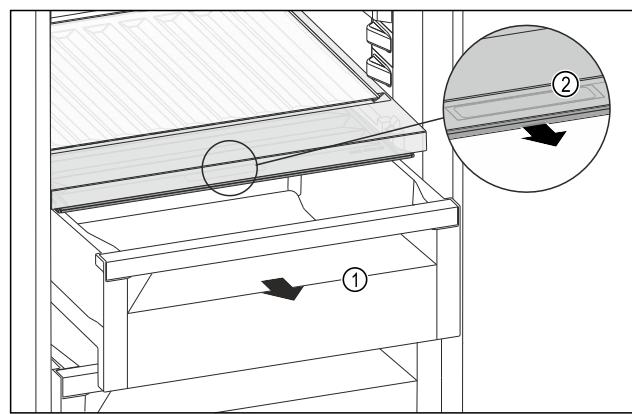

Fig. 95
- Pull out the drawer Fig. 95 (1).
- Grasp the recessed grip Fig. 95 (2) on the compartment lid and pull the compartment lid forwards at the same time.